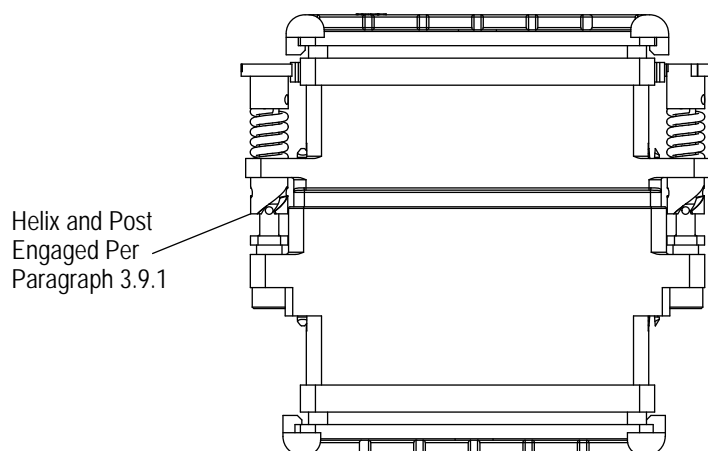

Figure 8
1. To mate the connectors, bring them together by hand until the helix on the plug engages the post of the panel mount receptacle. Refer to Figure 8.